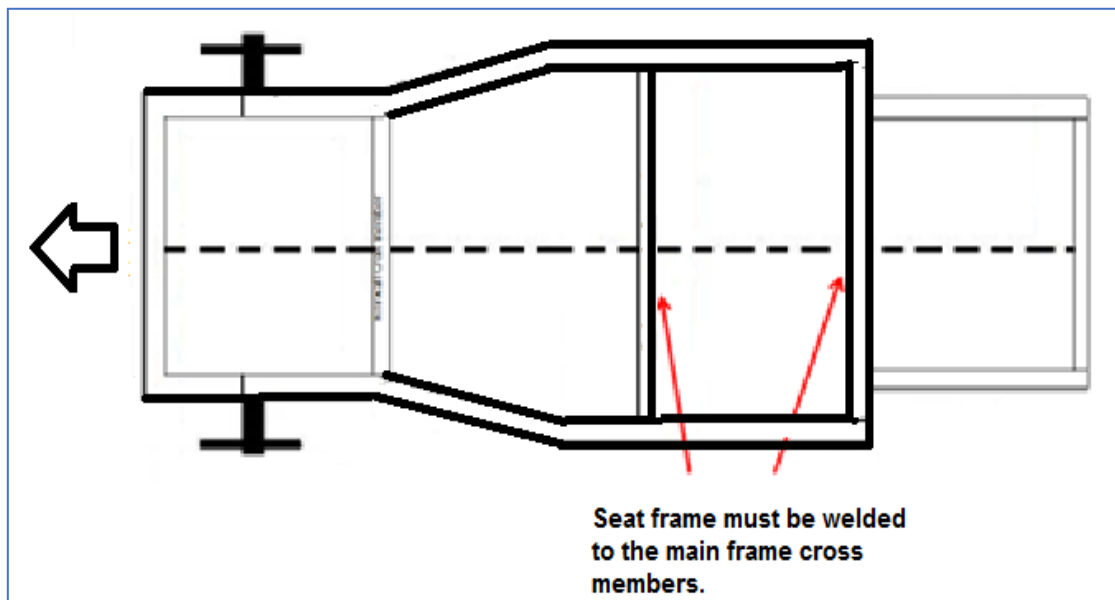

Figure 13
20.3 Seat must be mounted to a seat frame that is welded to the race-car main frame structure (*Figure 13*). Seats must be mounted to the seat frame as per the manufacturers' instructions, using materials recommended by the manufacturer.